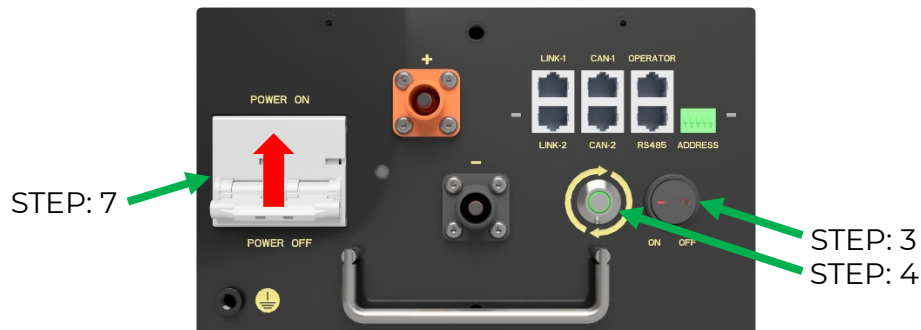

Figure 10 – Multi-Cluster Battery Startup Steps.
STEP 3:	Turn BMS Power Switches ON for all batteries in a single cluster (Figure 10).
STEP 4:	Press and hold the master battery module startup button for 5s (Figure 10). The startup button light will begin flashing and wake-up the connected slave batteries. The master battery is the battery connected directly to parallel clusters. Do not press the start-up button of any of the slave battery modules as the automatic wake-up process will assign slave battery module ID sequentially.
STEP 7:	Wait for battery startup button LED's in all clusters to illuminate a constant green before closing all battery module circuit breakers one cluster at a time such that they are ON for all batteries (Figure 10).